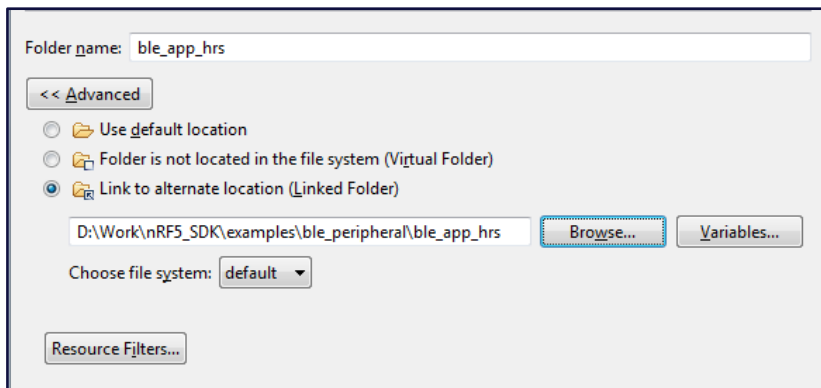

Figure 17: Adding files and folders to the project
8. Select **Link to alternate location (Linked Folder)** and browse to the location of the hrs project, e.g.: **D:\Work\nRF5_SDK\examples\ble_peripheral\ble_app_hrs** (Figure 17).